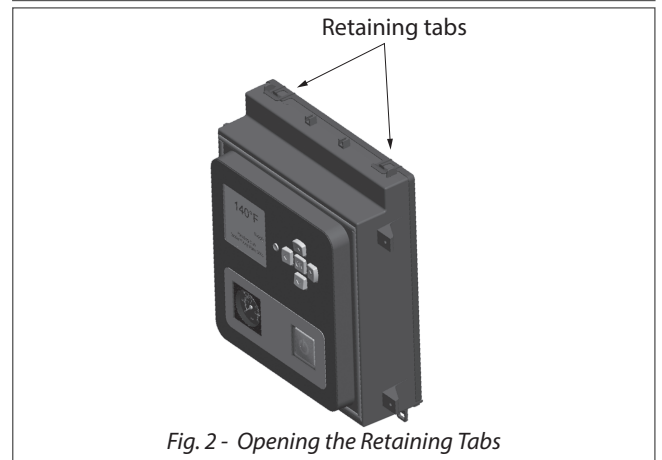
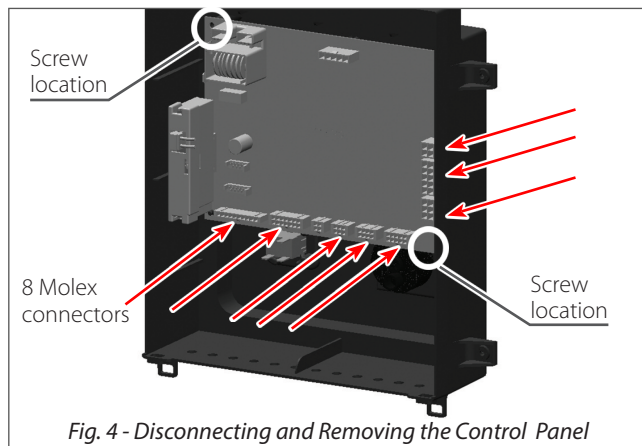

Fig. 2 - Opening the Retaining Tabs
Fig. 4 - Disconnecting and Removing the Control Panel
7. Pull the retaining tabs on top of the rear cover to remove the rear control box cover. See *Fig. 2*.
9. Remove all (8) Molex wiring connectors from the Control Module.
10. Support TriMax Control Module with one hand while removing individual Molex connectors, pressing tabs on Molex plugs for quick release. See *Fig. 4 below*.
1. Remove the 2 screws securing the Control Module into the enclosure and remove the Control Module. Retain screws for new Control Module installation. See **Fig. 4**.